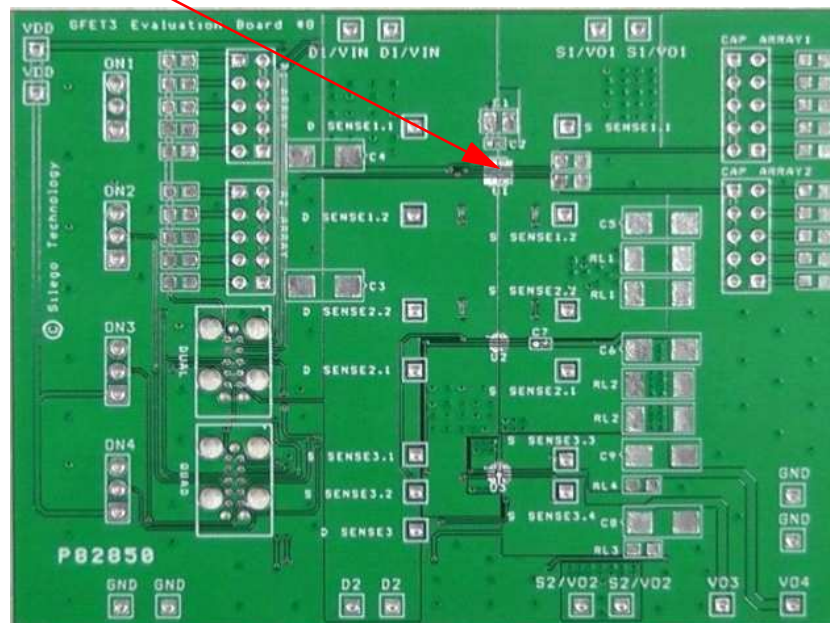

Figure 1. SLG59M1655V Evaluation Board.
2. Since the D and S pins dissipate most of the heat generated during high-load current operation, it is highly recommended to make power traces as short, direct, and wide as possible. A good practice is to make power traces with an absolute minimum widths of 15 mils (0.381 mm) per Ampere. A representative layout, shown in Figure 1, illustrates proper techniques for heat to transfer as efficiently as possible out of the device;
A GreenFET Evaluation Board for SLG59M1655V is designed according to the statements above and is illustrated on Figure 1. Please note that evaluation board has D_Sense and S_Sense pads. They cannot carry high currents and dedicated only for RDS_{ON} evaluation.